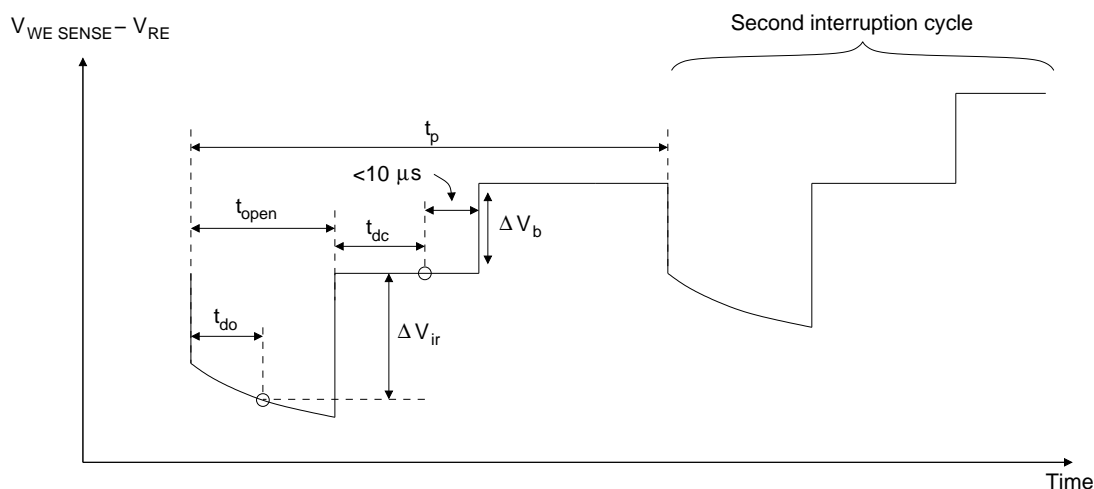

Figure 6: Cell potentials during current interrupt IR compensation. Default values for the various parameters are shown in table 1.
**INTERRUPT mode:** Figure 6 illustrates the parameters used for current interrupt when engaged from the front panel. In this mode, the CE is periodically disconnected from the control electronics to interrupt the cell current. This removes any IR drop between the reference and working electrodes, causing  $|V_{WE\ SENSE} - V_{RE}|$  to
Use the [SET] key in INTERRUPT mode to adjust the percent correction factor – the only parameter than can be set from the front panel. The other parameters shown in figure 6 are set to the default values shown in table 1.